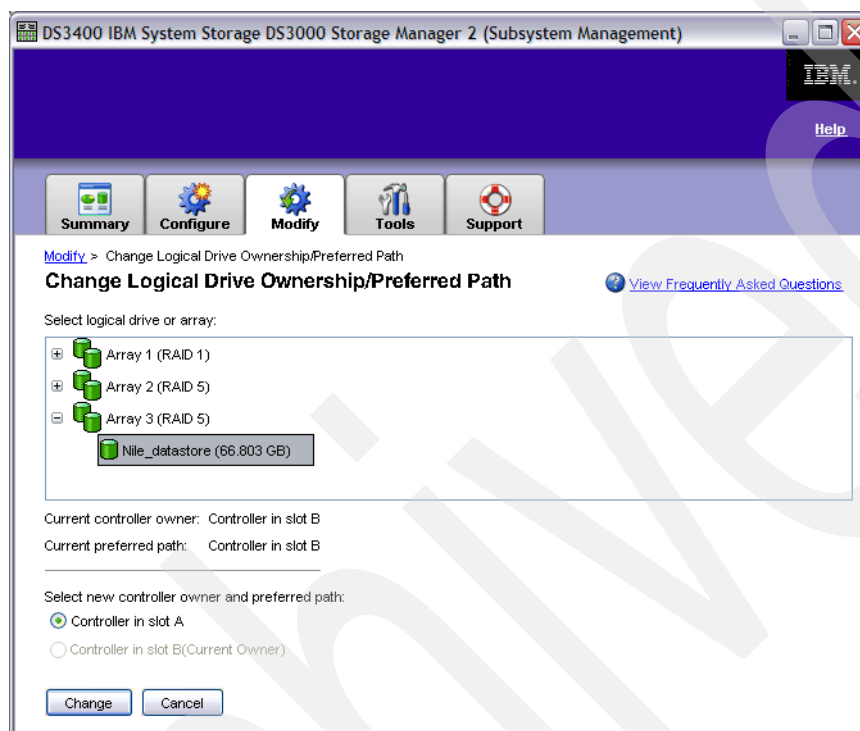

Figure 11-32 Current owner
1. Click the link to display the associated view (Figure 11-32). Select the logical drive to display the current owner and preferred path. The other controller is selected under Select new controller and preferred path. To change the logical drive to the other controller, click **Change**.